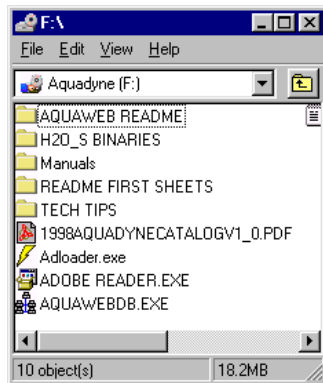

Figure 5.5 CD-ROM Files
5. The list of files on the CD ROM will then appear on your screen. Select the file "AQUAWEB.EXE". (Figure 5.5).